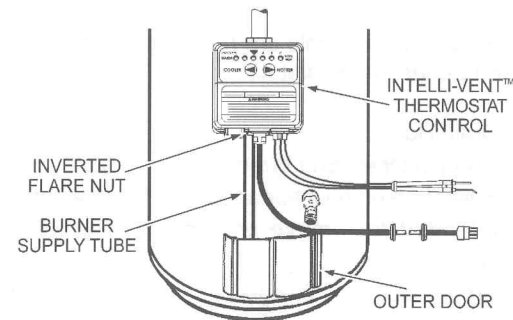

FIGURE 2
4. Using a 3/4 inch open-end wrench, disconnect the burner tube's inverted flare nut, which is threaded into the Intelli-vent™ Thermostat Control, see Figure 2.
5. Remove the outer and inner doors from the water heater, see Figures 2 and 3.